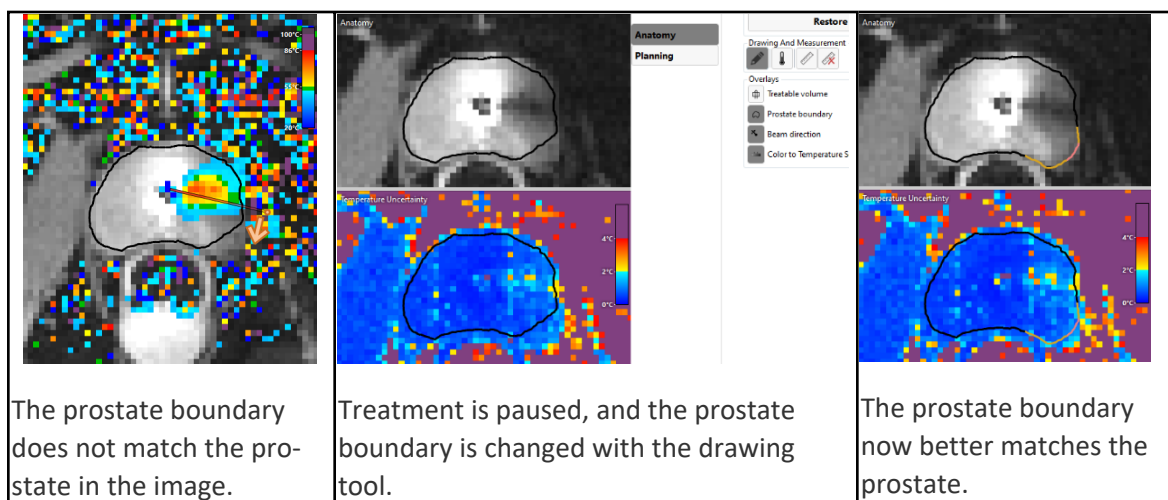

Figure 48: Editing the prostate boundary
3. Click the drawing tool. The TDC displays a new pane showing the prostate boundary contour and the temperature uncertainty for the selected slice (Figure 48).